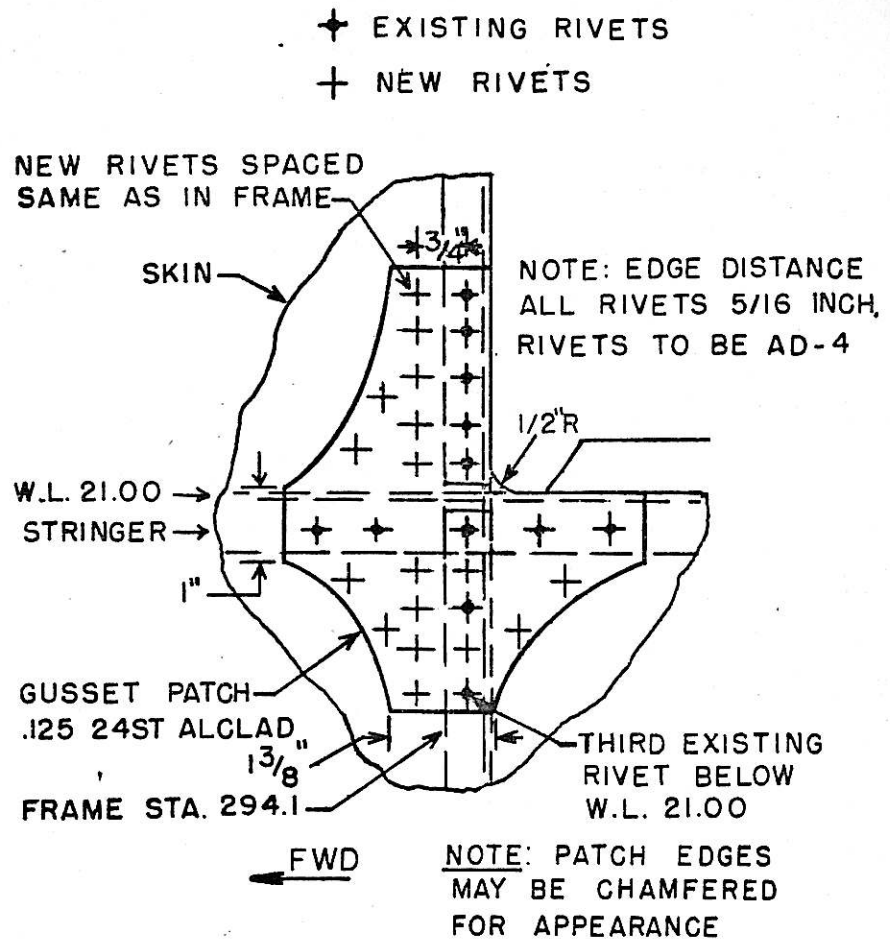
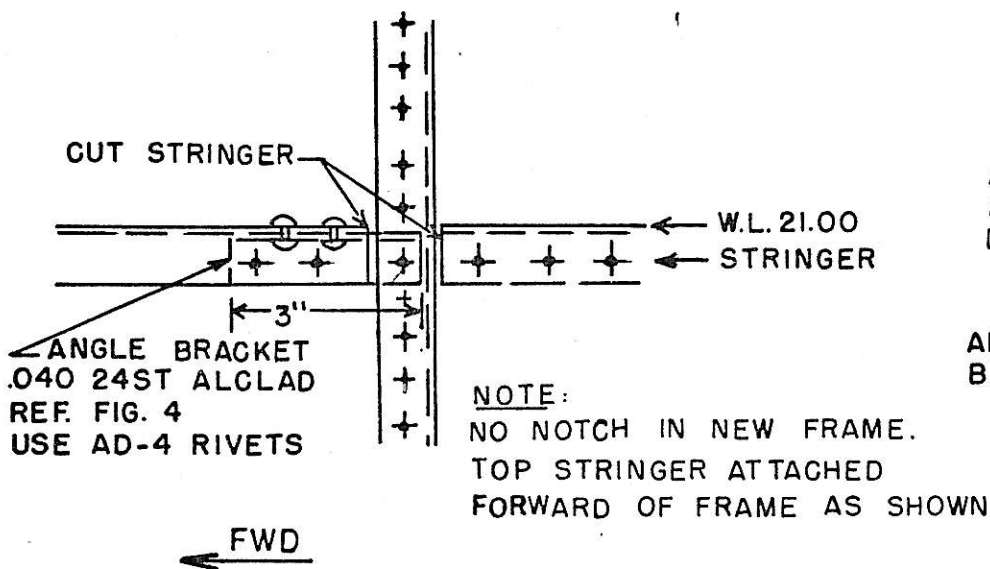

FIG. 2
FIG. 3
- c. Install gussett patch of .125 24 ST Alclad to R and L outer surfaces of fuselage skin by removing existing rivets in frame and stringers and installing patch. (see Figure 2)
- d. Cut top stringers forward and aft of frame location (see Figure 3).
- f. Secure top stringers forward of frame by adding angle brackets of .040 24st Alclad using AD-4 rivets (see Figures 3 and 4).
An equivalent frame repair that will provide a continuous bulkhead flange, installed in accordance with the general requirements of C.A.M. 18, with notched stringers as shown in Figures 3 and 4, and gusset patch installed in accordance with Figure 2 will be accepted as an alternate for a new frame. All alternate repairs must be submitted to C.A.A. Airframe Engineering office for approval prior to installation.